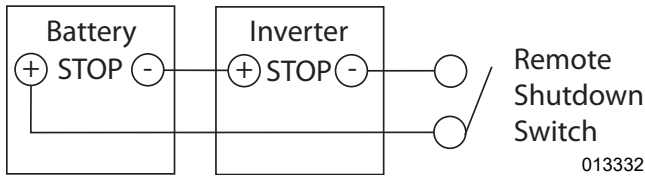
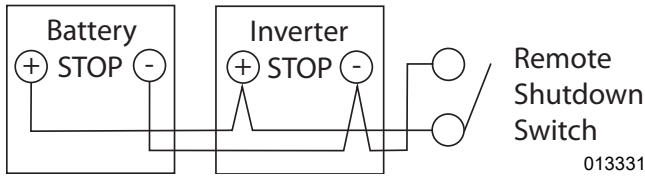

Figure 5-5. Remote Shutdown Switches Series Wiring
Figure 5-6. Remote Shutdown Switch Parallel Wiring
4. See Figure 5-5 and Figure 5-6. Use 30 – 14 AWG two-conductor cable with insulation rated for 600 V to connect a switch that is lockable, UL listed, and rated for at least 12 VDC, 1 A (consider a standard single-pole light switch in a weather proof box with a lockable lever).